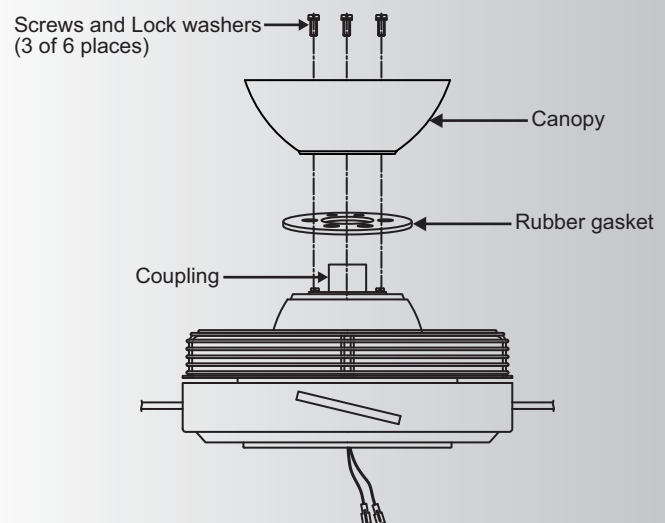

Fig. 12
Step 1. Remove three of the six screws and lock washers (every other one) from the collar on top of the motor assembly. Place the ceiling fan canopy and the rubber gasket over the collar and align the mounting holes with the holes in the collar. Attach the canopy with the rubber gasket and the three screws and lock washers previously removed. (Fig. 12)